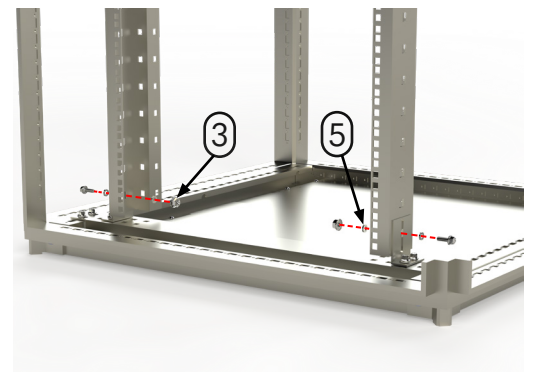

Figure 5
- Secure with the nut and second washer from the inside of the fixed upright. See Figure 5.